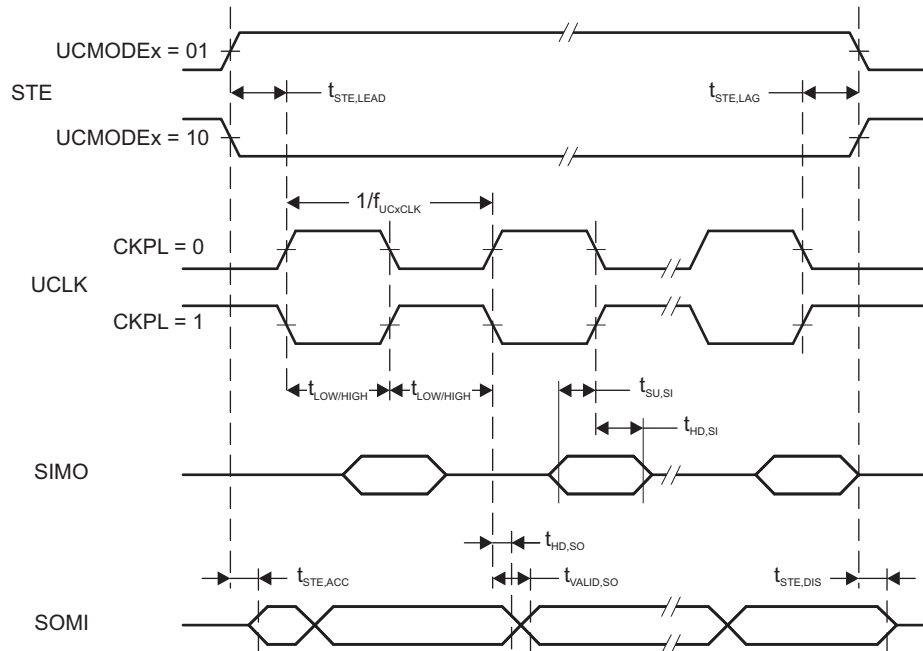
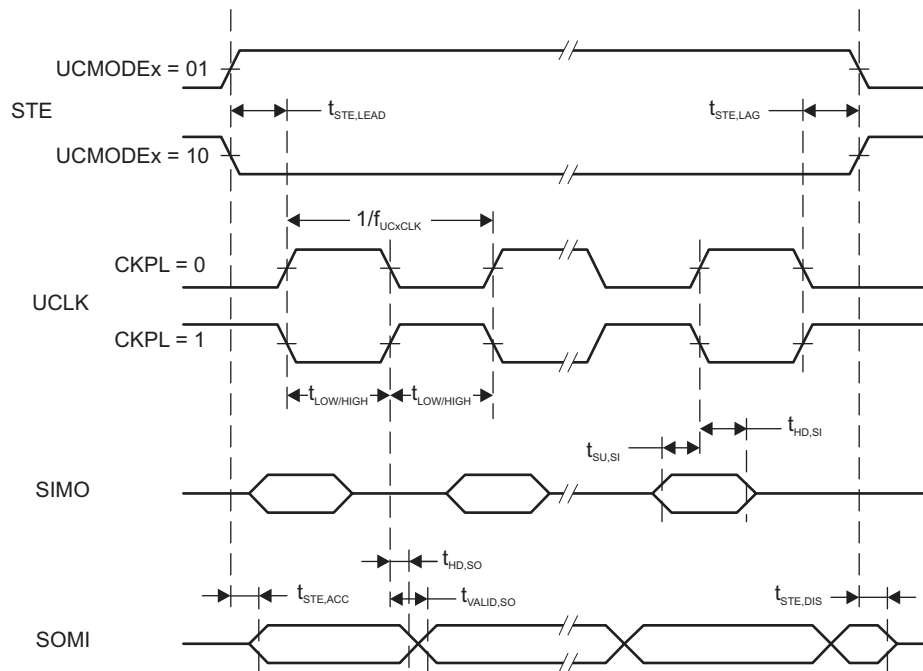

Figure 5-15. SPI Slave Mode, CKPH = 0
Figure 5-16. SPI Slave Mode, CKPH = 1
(2) Specifies the time to drive the next valid data to the SOMI output after the output changing UCLK clock edge. See the timing diagrams in Figure 5-15 and Figure 5-16.
(3) Specifies how long data on the SOMI output is valid after the output changing UCLK clock edge. See the timing diagrams in Figure 5-15 and Figure 5-16.